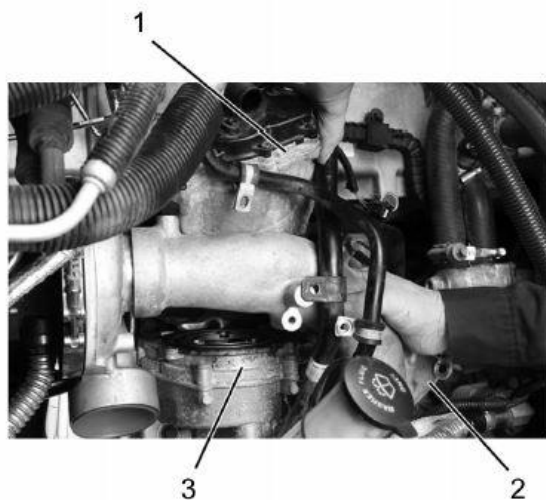

Figure 7: CCOS Housing
22. Remove three CCOS housing bolts from CCOS housing (Figure 7, Item 1) and oil jet plate (Figure 7, Item 3). Discard CCOS housing bolts.
NOTE: While pulling out on the HP turbocharger inlet duct, maneuver and remove the CCOS housing up and out (Figure 7).
23. While pulling out HP turbocharger inlet duct (Figure 7, Item 2), remove CCOS housing (Figure 7, Item 1) from oil jet plate.